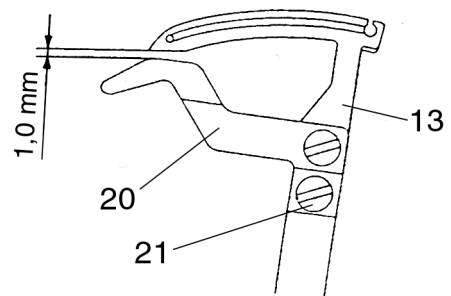

Fig. 41
- Slightly loosen the fastening screw 21 (fig. 41).